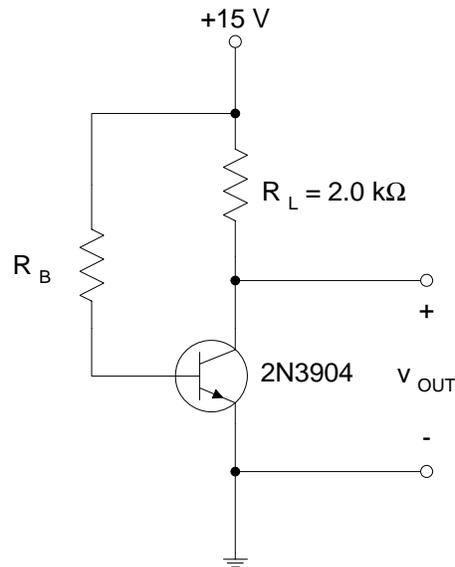

Figure 5: Circuit for Experiment 5.
5. Select the 2N3904 transistor with the largest  $\beta_F$  based upon the results of your test. Construct the circuit of Figure 5. Based upon your measurements of this particular transistor, calculate the values of  $R_B$  such that the DC value of the voltage  $V_{out}$  will be approximately 7 V. Using the resistors in your lab kit, approximate this value of  $R_B$  in your circuit and verify your calculation. **Q 5.1 What factors determine how closely you can achieve the desired DC value of output voltage?**